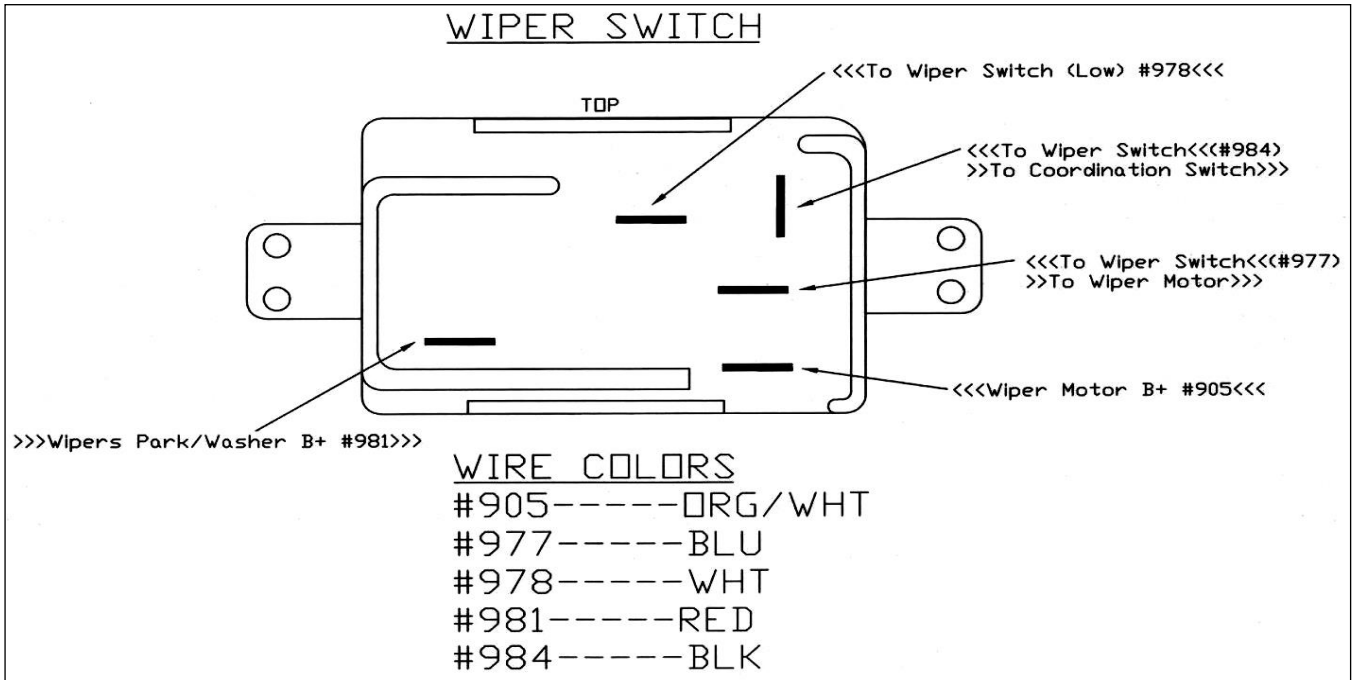

Figure 7-21 Wiper Switch Connections
- 7.12.1** The connections for the Wiper Switch in the cluster are illustrated in **Figure 7-21**.